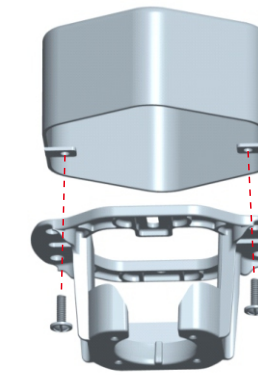

Fig 4.1
- Install the mounting bracket to the ceiling box, as shown in Fig 4.1 below. Rotate the mounting bracket in different directions so that the bracket mounting holes match the screw holes of the ceiling box.
- Note:** This mounting bracket is a standard cable box. If the mounting bracket is installed at the outlet box, it should be installed on the outlet box with two screws matching the outlet box itself, as shown in Fig 4.1.